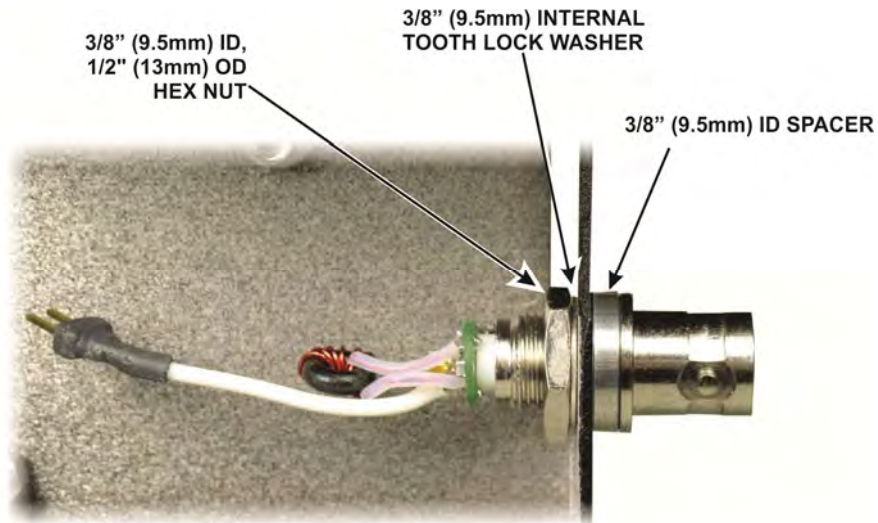

Figure 35. Antenna Connector Mounted on Bottom Cover.
□ Mount the antenna connector assembly in the largest hole in the bottom cover end plate as shown in Figure 35. Note that the hole has a flat side. Align it with the flat on the connector.